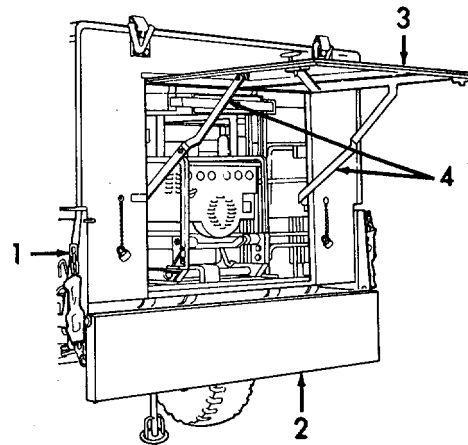

Figure 2-4. Opening the End Gates.
- (3) Refer to Figure 2-4. Unhook the trailer end gate chains (1).
- (4) Lower the end gate (2).
- (5) Open the rear door (3) and make sure the latches (4) hold the door open.
- (6) Unload the equipment from the cabinet assembly.